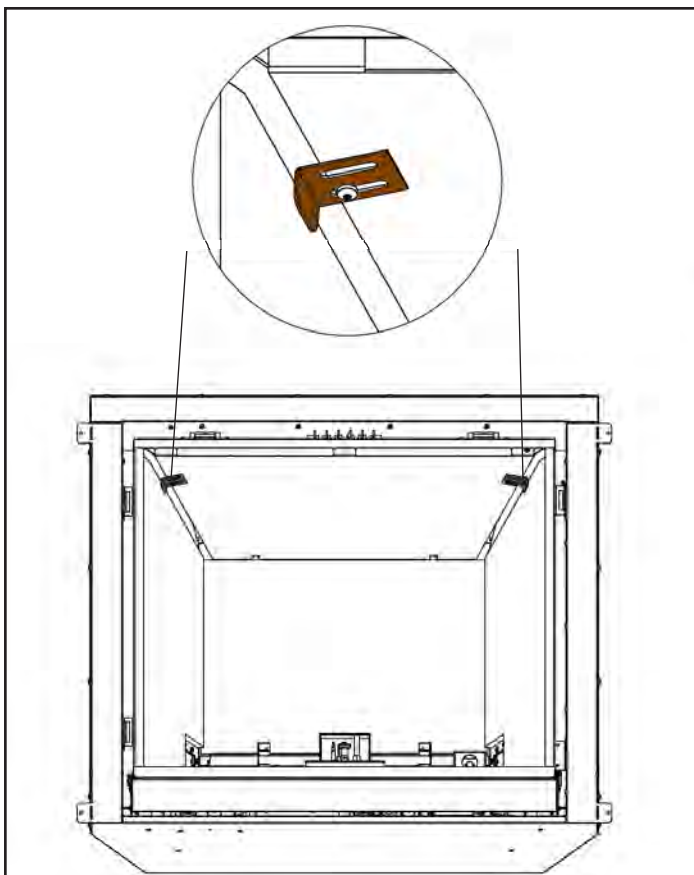

Figure 36. Liner panel retainers
Step 3: Screw the (2) retainer brackets into the existing exhaust baffle with the supplied #8 T-20 bolts. Before tightening press the retainer onto the panel firmly. Tighten them once the panels seems to be in the correct position. (See Figure 36)